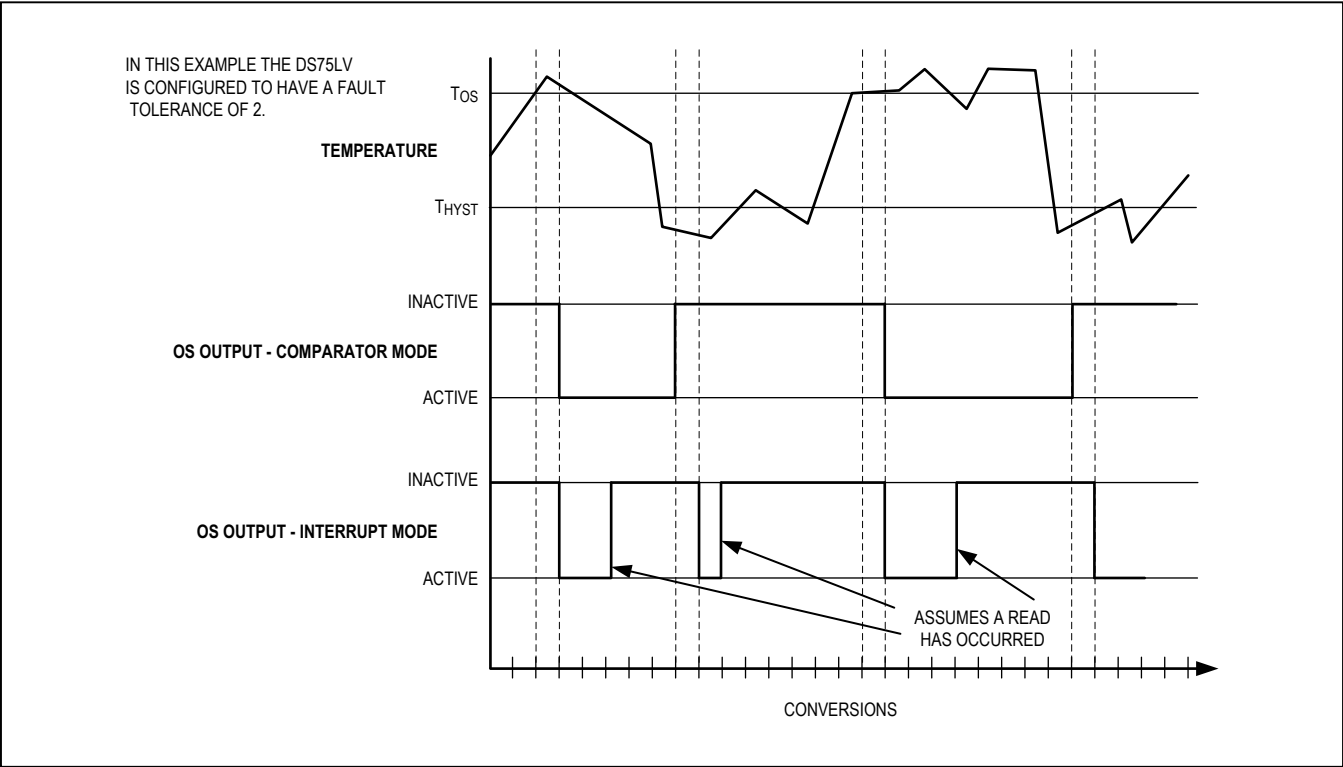

Figure 4. OS Output Operation Example
**Comparator Mode:** When the thermostat is in comparator mode, OS can be programmed to operate with any amount of hysteresis. The OS output becomes active when the measured temperature exceeds the  $T_{OS}$  value a consecutive number of times as defined by the F1 and F0 fault tolerance (FT) bits in the configuration register. OS then stays active until the first time the temperature falls below the value stored in  $T_{HYST}$ . Putting the device into shutdown mode does not clear OS in comparator mode. Thermostat comparator mode operation with FT = 2 is illustrated in Figure 4.
**Interrupt Mode:** In interrupt mode, the OS output first becomes active when the measured temperature exceeds the  $T_{OS}$  value a consecutive number of times equal to the FT value in the configuration register. Once activated, OS can only be cleared by either putting the DS75LV into shutdown mode or by reading from any register (temperature, configuration,  $T_{OS}$ , or  $T_{HYST}$ ) on the device. Once OS has been deactivated, it is only reactivated when the measured temperature falls below the  $T_{HYST}$  value a consecutive number of times equal to the FT value. Again, OS can only be cleared by putting the device into shutdown mode or reading any register. Thus, this interrupt/clear process is cyclical between  $T_{OS}$  and  $T_{HYST}$  events (i.e.,  $T_{OS}$ , clear,  $T_{HYST}$ , clear,  $T_{OS}$ , clear,  $T_{HYST}$ , clear, etc.). Thermostat interrupt mode operation with FT = 2 is illustrated in Figure 4.